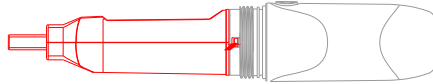

Fig.21
Step 2. Press the snap to remove the compartment. See Fig. 21.